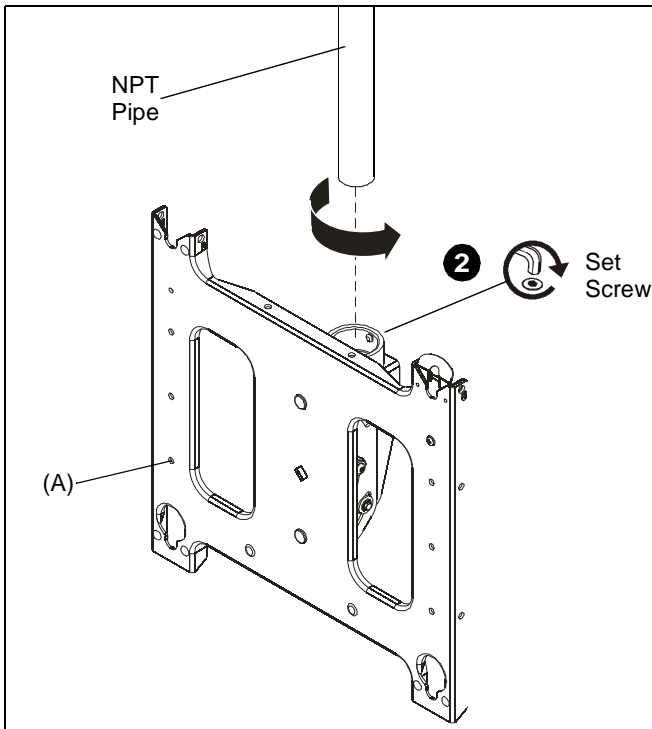

Figure 1
1. Thread the mount (A) onto the existing 1-1/2" NPT pipe until tight. (See Figure 1)
2. Using the 5/32" hex head wrench (B) tighten the set screw to prevent movement of the mount. (See Figure 1)